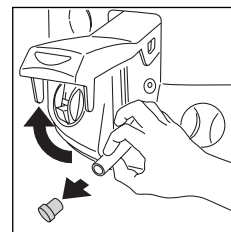

fig. 12
2. Open door for drain hose storage (as in fig. 12).
4. Remove drainage hose cap while at the same time squeezing the hose with two fingers to prevent the oil or fat from leaking out before the hose has been directed into a container (fig. 12).